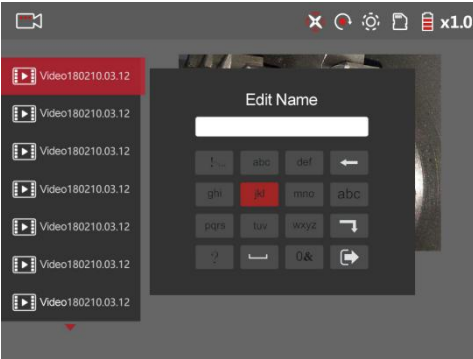
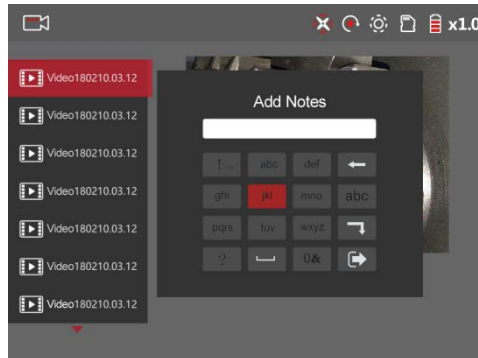

Figure 19
Figure 20
- 4) Edit the file name (Fig. 19), add a comment (Fig. 20), and so on.